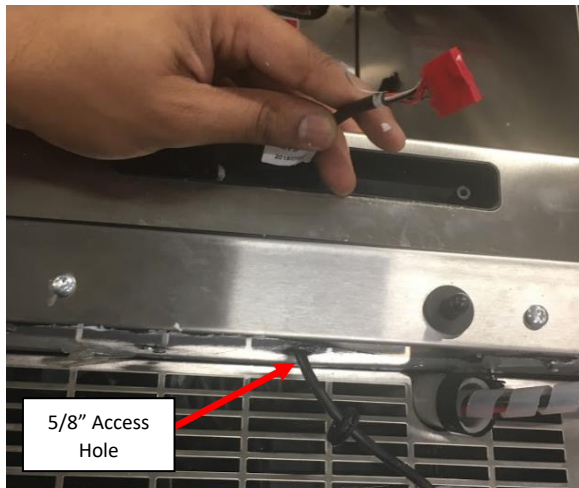

Figure 105a: UI Harness pushed through access hole.
- iii. Insert the Connector on the UI Harness through the bottom side of the Access Hole drilled in previous step. See **Figure 105a**.